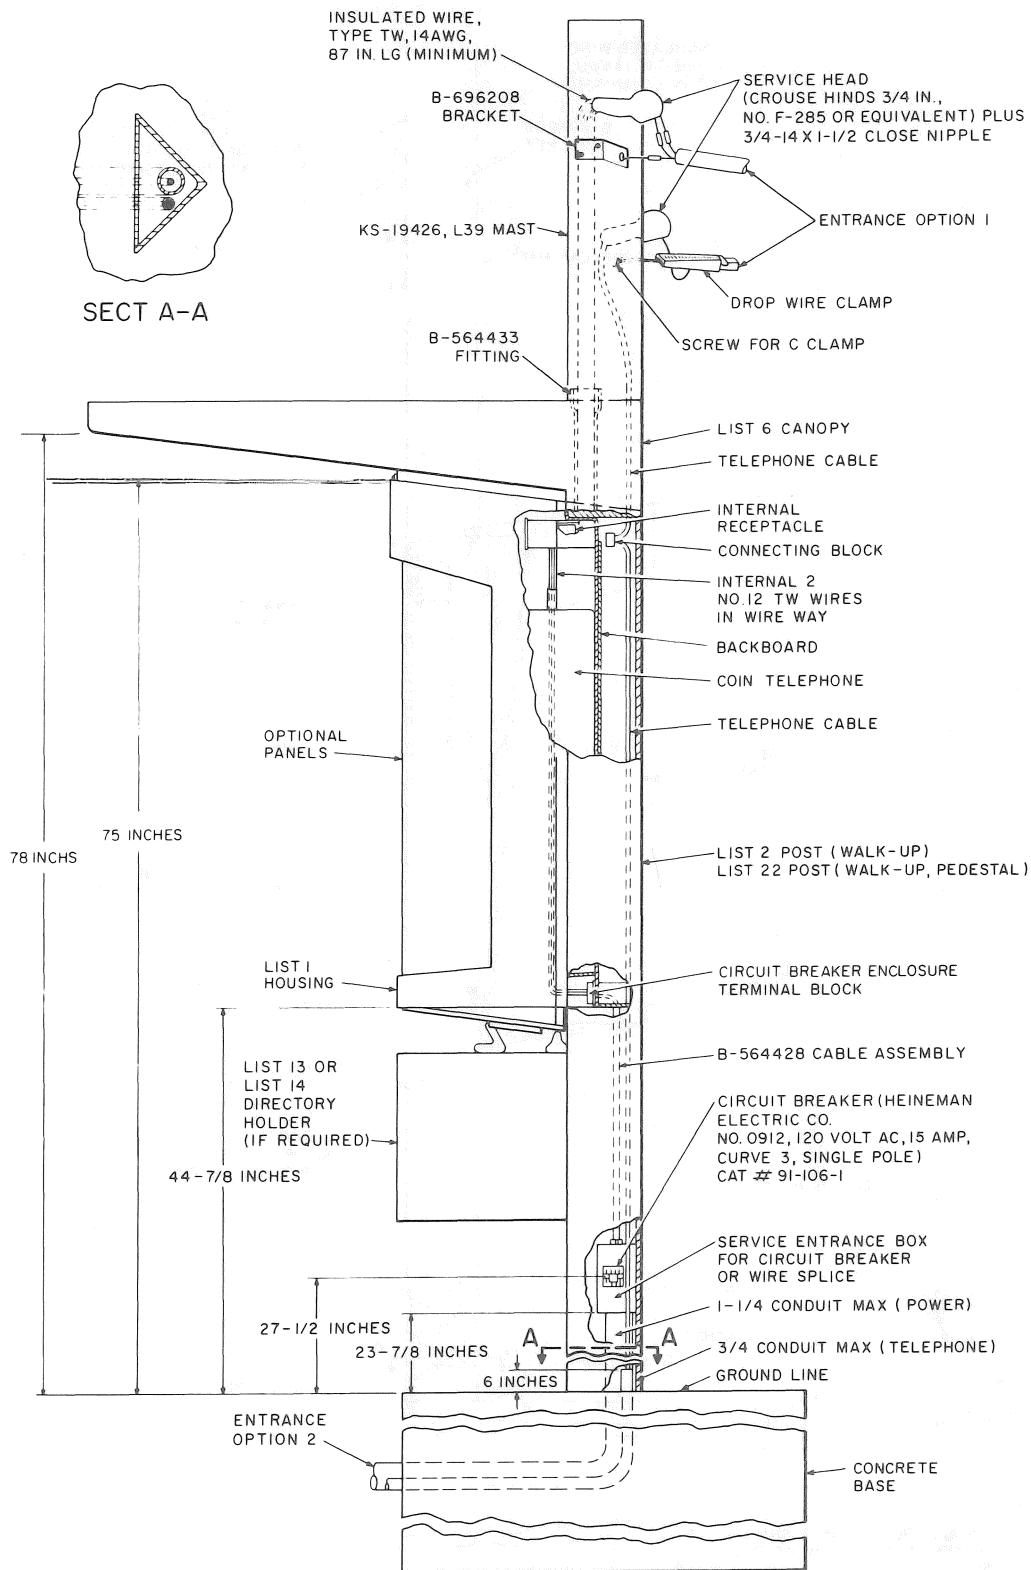

Fig. 17—Installation Requirements for Post or Pedestal Mounting, Walk-Up Location
3.40 Embed KS-19426, List 2 post(s), for walk-up mountings, or KS-19426, List 3 post(s), for drive-up mountings, in the center of the base to concur with the dimensions shown in Fig. 17 or 18.
3.57 The wiring for a post mounting may enter from the ground or from a mast (Fig. 17, or 18).